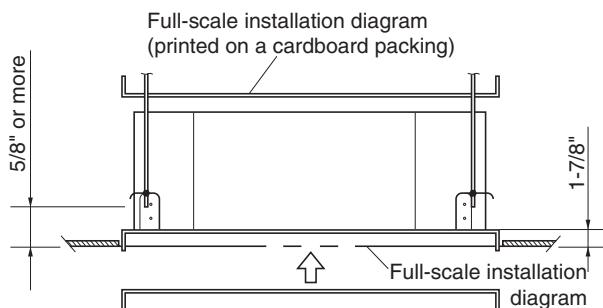

Fig. 1-15
- (1) When placing the unit inside the ceiling, determine the pitch of the suspension bolts using the supplied full-scale installation diagram. (Fig. 1-15) The size of the opening for the indoor unit can be confirmed by attaching the full-scale installation diagram beneath the unit. (Fig. 1-15)
- (2) The length of each suspension bolt must be appropriate for a distance between the bottom of the bolt and the bottom of the ceiling of $5/8"$ or more as shown in Fig. 1-15.
- (4) Remove the protective cardboard used to protect the fan parts during transport.
- (5) Adjust the distance between the unit and surface of the ceiling. ($1-7/8"$) (Fig. 1-15)